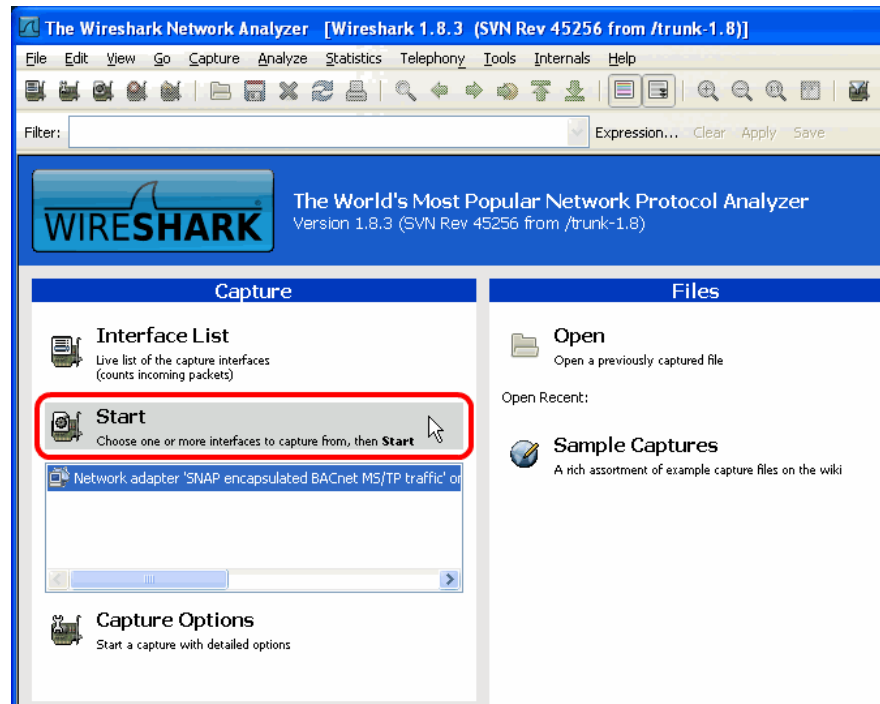

Figure 248: Start Remote Capture in Wireshark.
2. Click the **Start** button as shown in Figure 248.